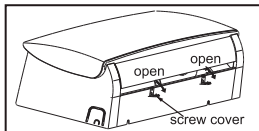
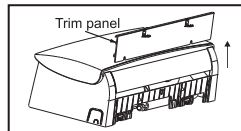

Fig. 1
Fig. 2
- 2) Open the screw cover as shown in Fig. 1 and remove the trim panel as shown in Fig. 2.